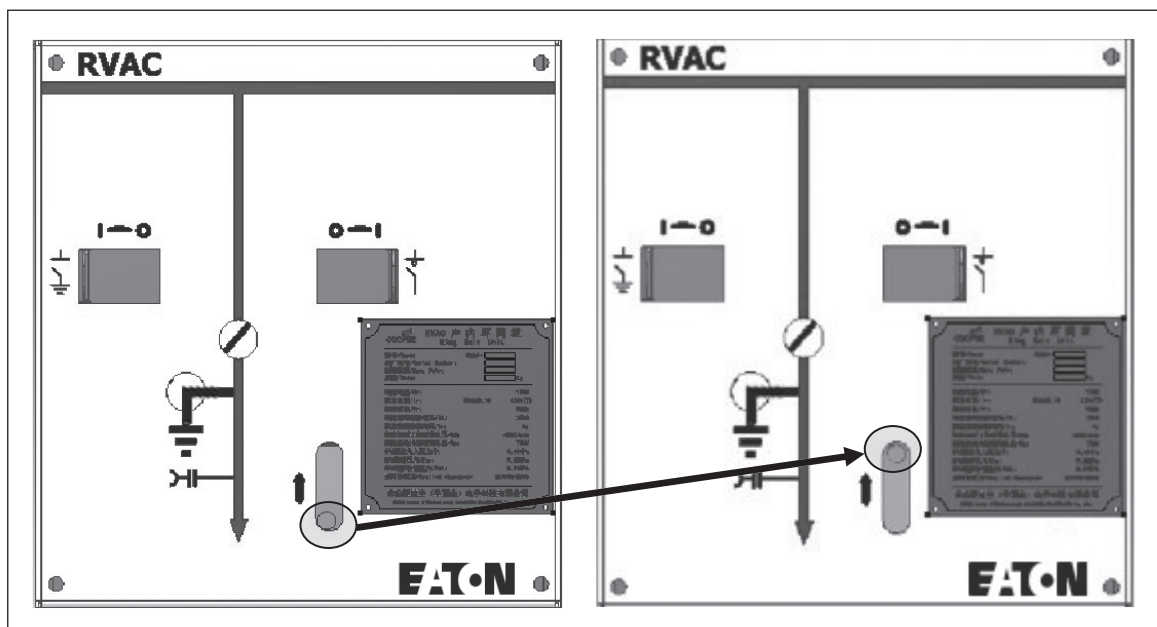

Figure 14.2 Cable compartment door interlocking device
- Lift up the interlocking device, and release the lockout of the cable compartment door (see **Figure 14.2**);